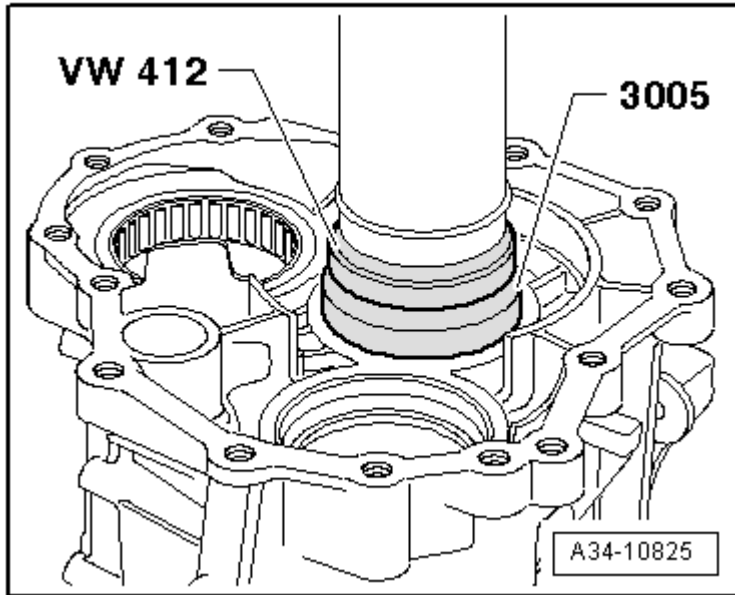

Fig. 61: Installing Outer Race / Tapered Roller Bearing All Way Into Transmission Cover
- Installing, refer to **Fig. 61**